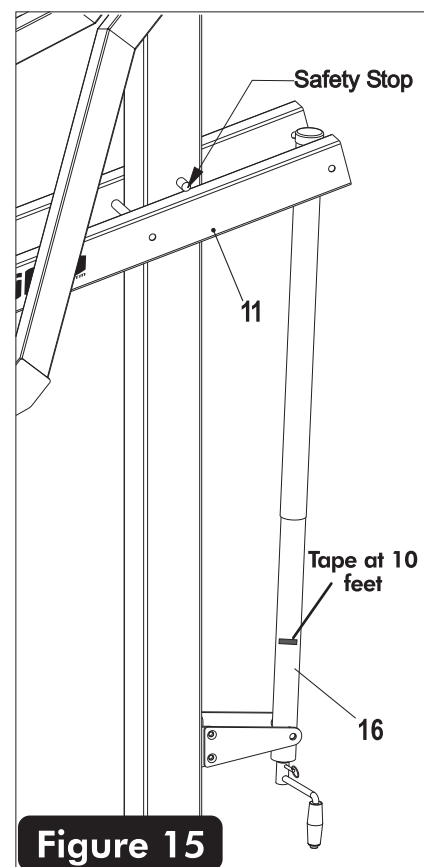

Figure 15
23. Lower backboard all the way down. Do not force actuator once backboard is in it's lowest position. See **Figure 15**.